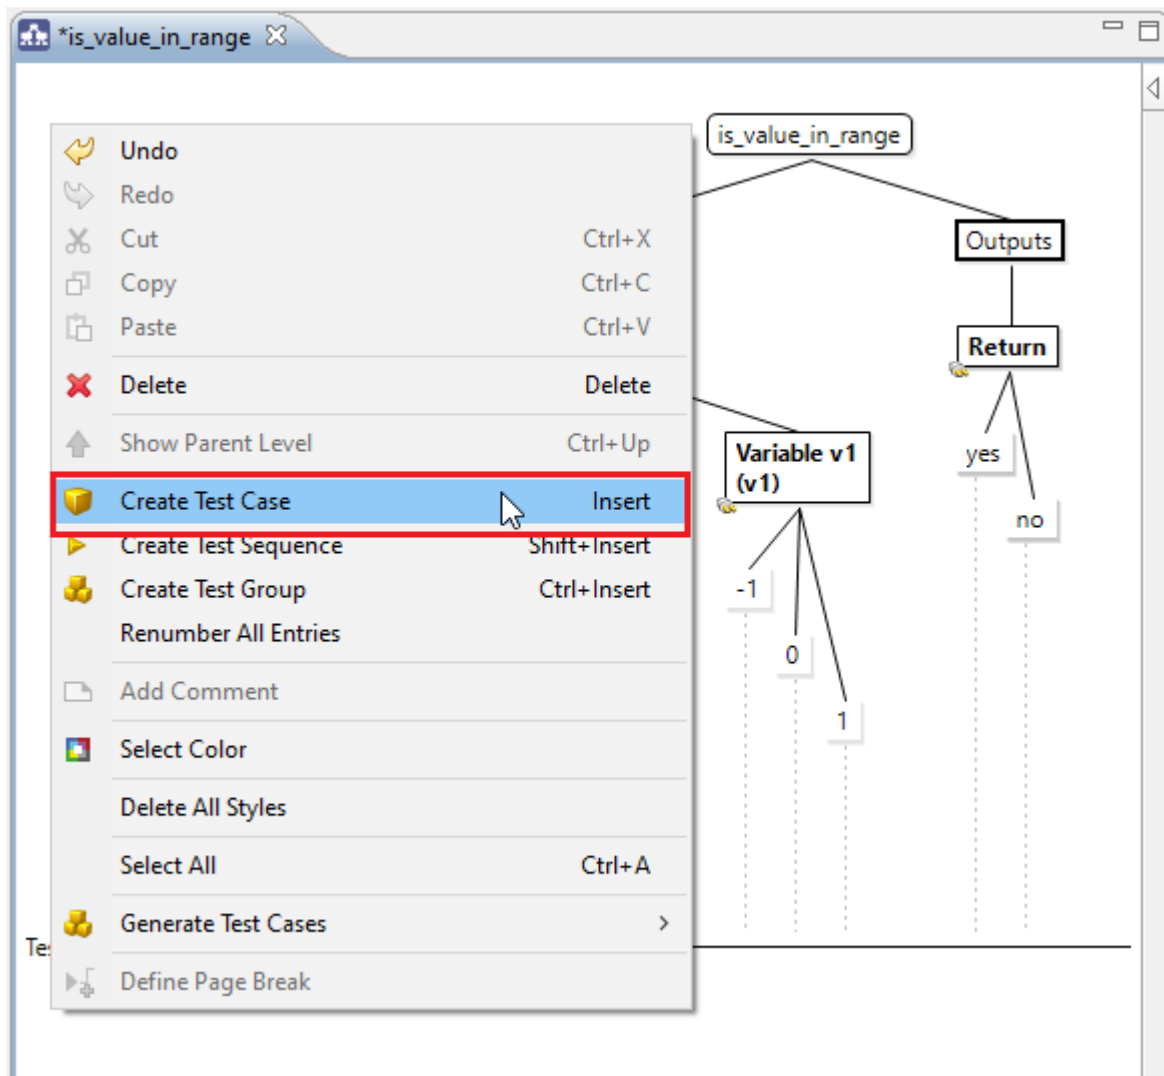

Figure 5.60: Creating test cases in the CTE
- Select “Create Test Case” within the context menu, see figure 5.60, or press Insert on your keyboard.